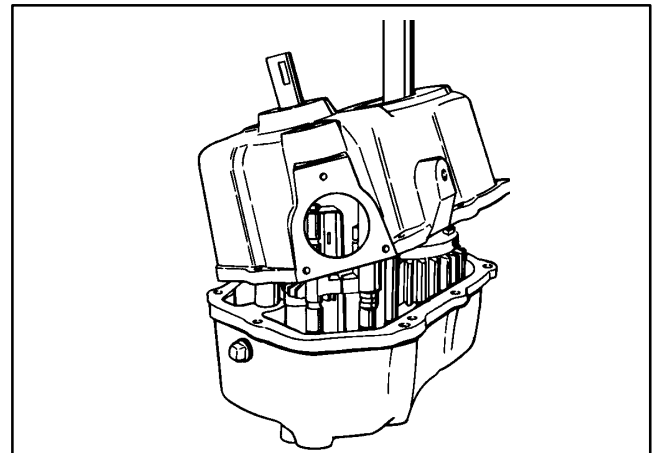

Figure 10
2. Place the transaxle in neutral. Remove three (3) socket head screws (item 1) that secure shift lever assembly to transaxle. Lift shift lever assembly, gaskets and shift guide plate from transaxle. See Shift Lever Service in this section for shift lever assembly service.
3. For assembly purposes, mark axle housings and transaxle to identify orientation of axle housings. Remove cap screws (item 51) and lock washers (item 53) that secure axle housings to the transaxle. Pull axle housings from the transaxle case and cover.
4. Use exposed axles as a ram to separate seal retainers from transaxle case and cover. Remove and discard seals (item 45) and o-rings (item 72) from retainers.
6. Tap two (2) dowel pins (item 50) into the cover and then remove eleven (11) flange head screws (item 49).
7. Lift the case 1 1/2 to 2 inches (38 to 50.8 mm) and tilt case so that the shifter rods will clear the edge of the case. Rotate case so the boss hidden inside will clear the gears. Lift case from transaxle (Fig. 10).